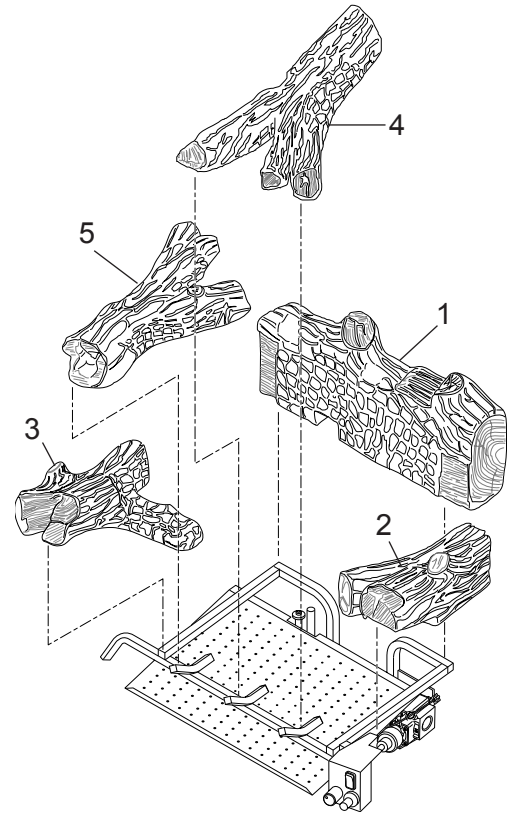

Figure 9 - VDY24/18D Log Placement
1. Install the rear log (#1) on the two locating pins. Visually check to verify the log is securely placed on the pins and in contact with the grate. *See Figure 9.*
2. Install the right log (#2) on top of the control cover. Slide the log back until touching the rear log (#1). Visually check to verify the log is resting on the grate and control cover. *See Figure 9.*
3. Install the left log (#3) with its bottom groove resting on the right side of the grate bar. Slide the log back until touching the rear log (#1). Visually check to verify the log is resting on the grate. *See Figure 9.*
4. Install the top right log (#4) with the two branches resting on the two grate fingers in the front and the back resting on the pad of the rear log (#1). Visually check to verify the log is resting on its notches with the grate and rear log. *See Figure 9.*
5. Install the top left log (#5) with the branch resting on the remaining front grate finger and the two branches resting on the pads of the rear log (#1). *See Figure 9.*